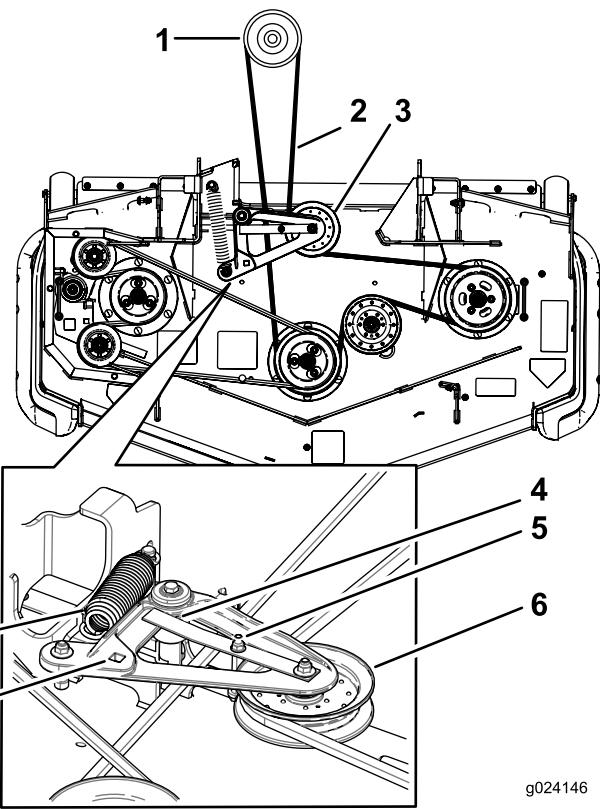

Figure 91
6. Use a ratchet in the square hole in the idler arm to remove tension on the idler spring (Figure 91).
8. Install the new belt around the mower pulleys and the clutch pulley under the engine (Figure 91).
10. Using the ratchet in the square hole in the idler arm, install the belt around the spring-loaded idler pulley (Figure 91). Seat the spring ends in the anchor grooves.